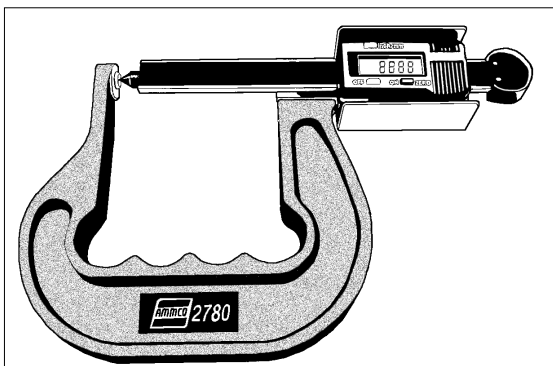

Figure 17 - Measure rotor thickness
**2.** Use a micrometer to check the thickness of the rotor (figure 17) at no less than 3 points around the circumference about 1" (2.54 mm) in from the outer diameter.